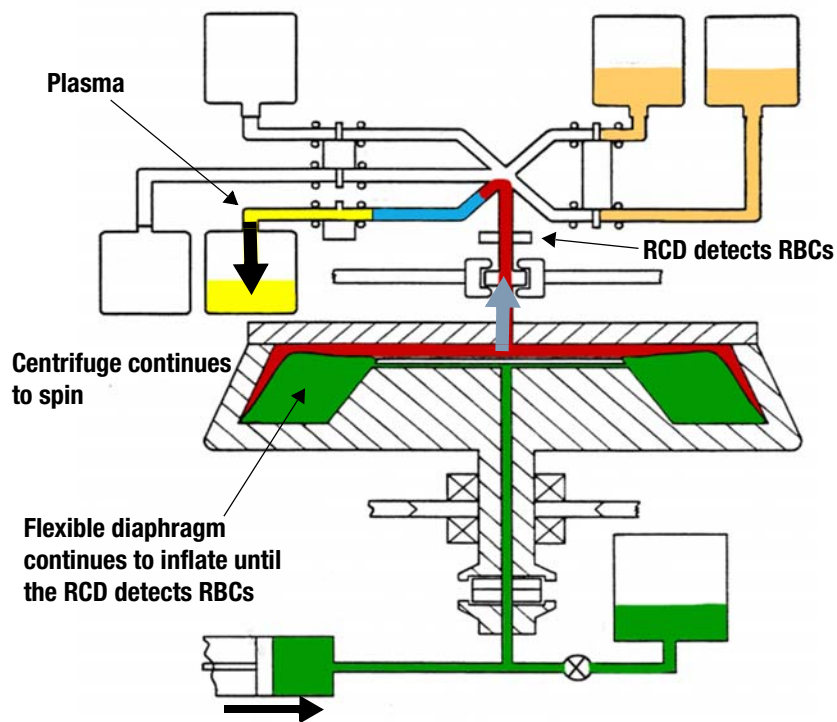

Figure 1-17: Detecting RBCs during Supernatant-Out (SOV selected)
- Red cells are detected by the RCD (Figure 1-17).